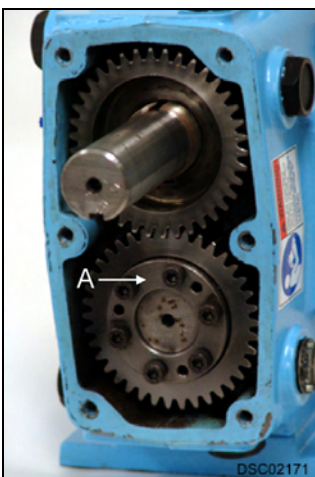

Figure 62 - Slide locking assembly on short shaft
3. Lubricate the locking assembly (Figure 62, item A) with light oil and slide it onto the short shaft and fully into the gear. The bolt heads should face out.